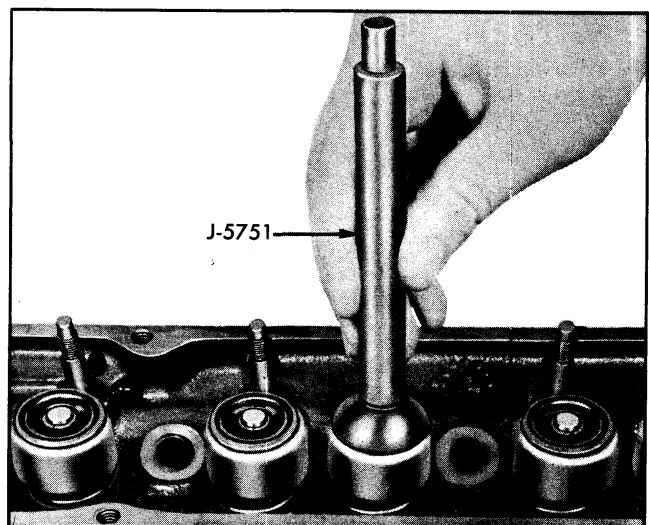

Fig. 6-24 Checking Valve Stem Seal
1. Install new part or parts, compress springs with valve spring compressor J-6384-1 and nut J-8929-2 (while holding valve up with holder J-5961-2), install valve stem seal and retainer cup locks. Remove spring compressor and valve holder, then test valve stem seal using suction cup end of tool J-5751 (Fig. 6-24).